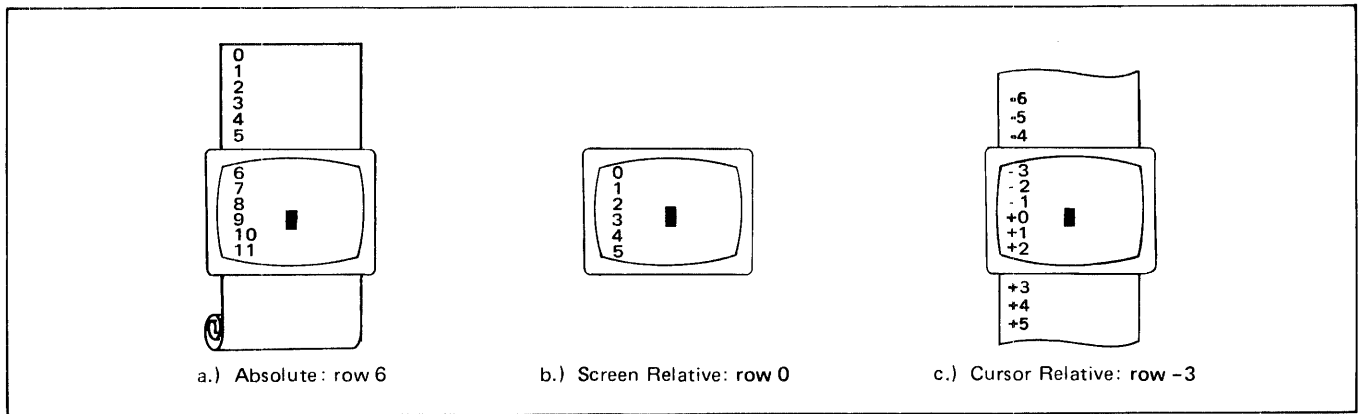

Figure 2-1. Row Addressing
**Row Addressing.** Figure 2-1 illustrates the way the three types of addressing affect row or line numbers. The cursor is shown positioned in the fourth row on the screen. Screen row 0 is currently at row 6 of display memory. In order to reposition the cursor to the first line of the screen the following three destination rows could be used: